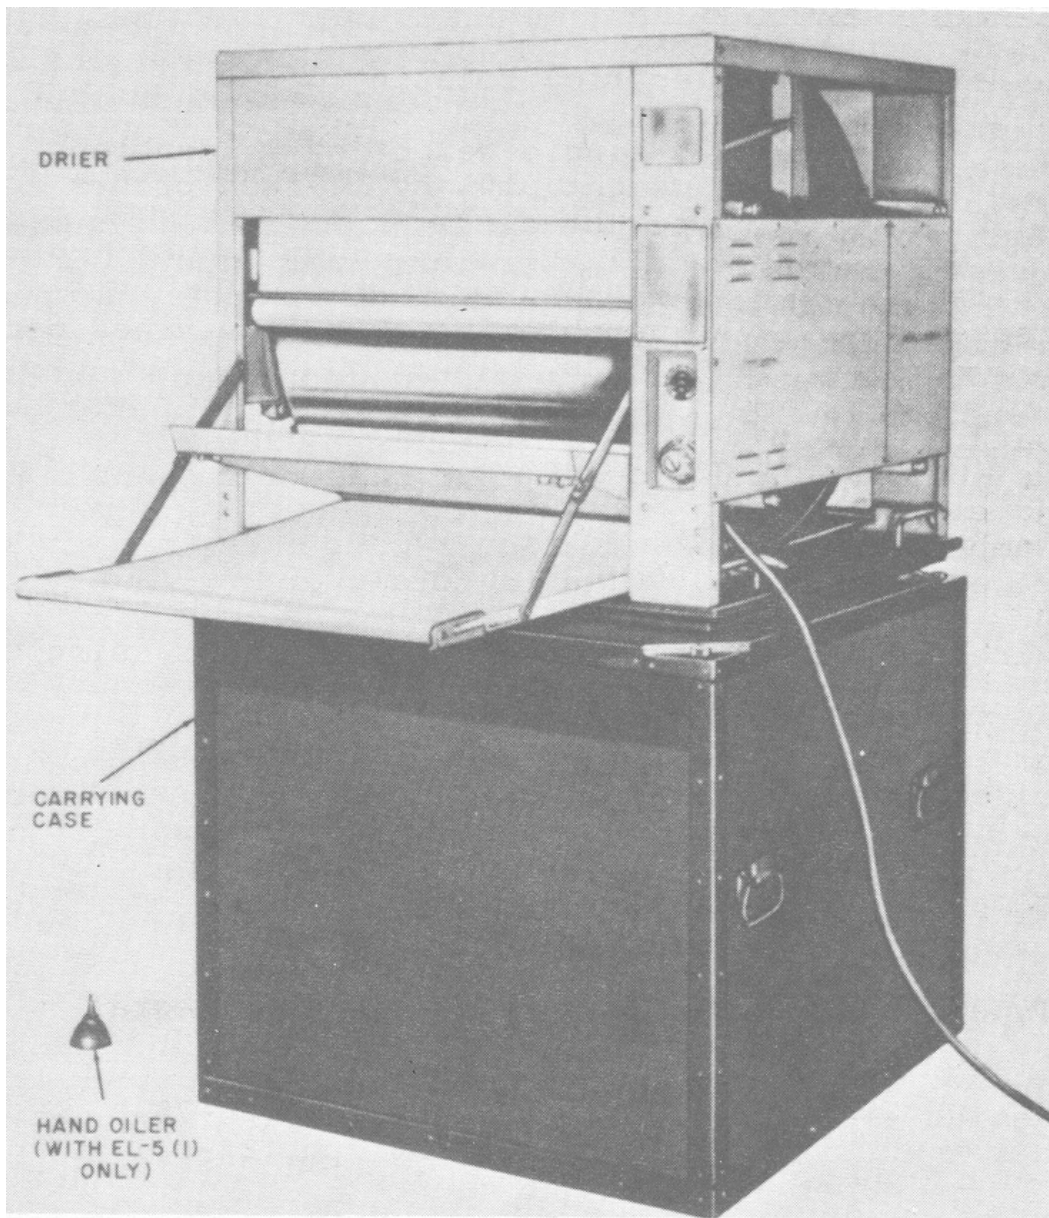

FIGURE 3-11. Drier, Photographic Print EL-5(1).
a. Purpose. The drier is a complete self-contained, electrically operated, portable unit capable of quickly and continuously drying various weights and types of photographic print paper (figure 3-11).